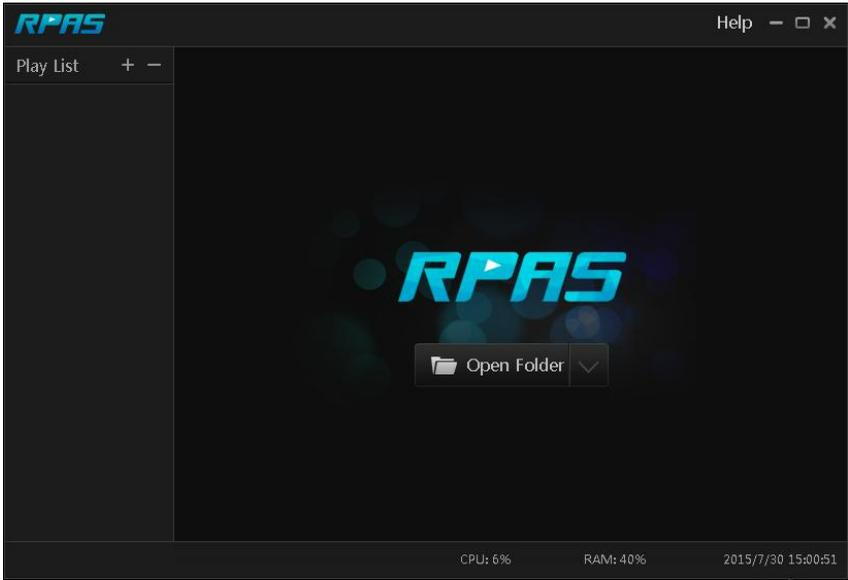

Fig 11-1
- If you select the private format when backing up recorded video by NVR, a RPAS compression package will be backed up to the USB device automatically along with the recorded video data. Uncompress the “RPAS.zip” and then click “RPAS.exe” to set up RPAS. After the setup is completed, open RPAS player and then click “Open Folder” in the middle of the interface to select the record data. Refer to Fig 11-1.